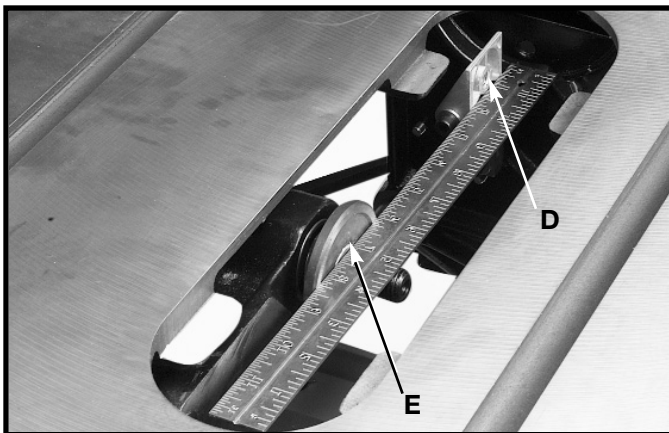

Fig. 17
4. Use a straight edge to check to see if the top and bottom of the inside splitter bracket (D) Fig. 17 is aligned with the inner arbor flange (E).